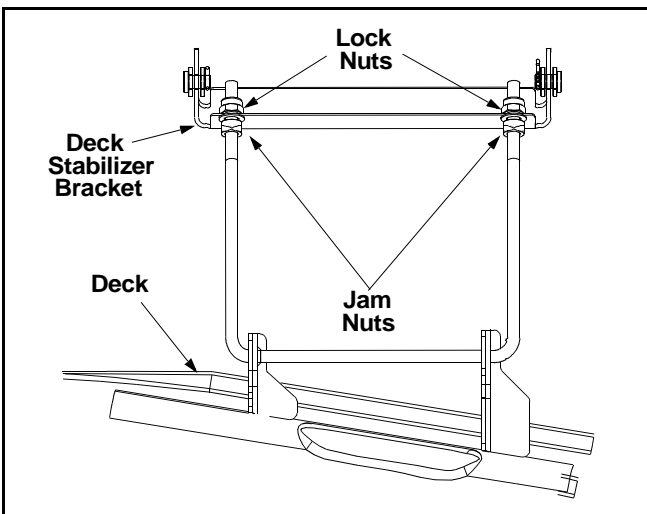

Figure 12
- Loosen the two jam nuts on the rear side of the deck stabilizer bracket. See Figure 12.
- Locate the two lock nuts on the opposite side of the stabilizer bracket. See Figure 12. Tighten the lock nuts to raise the front of the deck; loosen the lock nuts to lower the front of the deck.